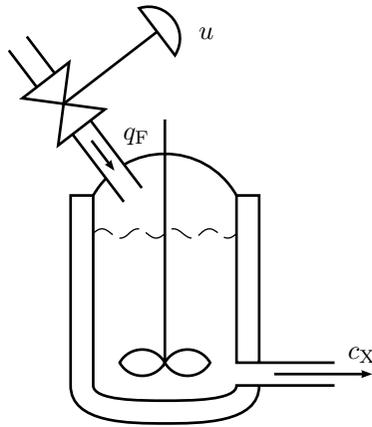

Figure 4.12a
4.12 Consider the biochemical reactor in Figure 4.12a. It is desirable to control the concentration of biochemical material  $c_X$  (output  $y$ ) by manipulating the dilute flow  $q_F$  (input  $u$ ). A model of this system can be described as